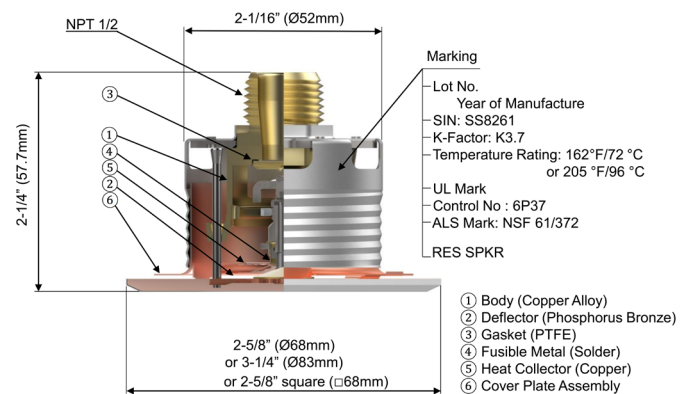

Figure 1: Model RC-RES K = 3.7
- **Physical Characteristics:** Ref. Figures 1 and 1.1